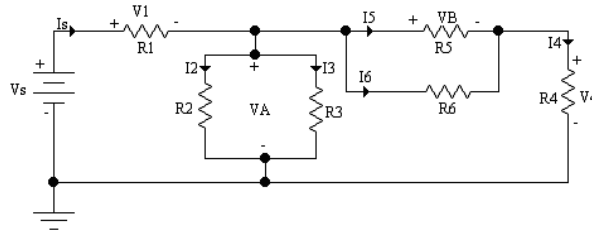

Figure 2.2
1. For the circuit of Figure 2.2 calculate  $R_T$ ,  $I_2$ ,  $I_3$ ,  $I_4$ ,  $I_5$ ,  $I_6$ ,  $I_S$ ,  $V_1$ ,  $V_A$ ,  $V_5$ , and  $V_4$ . With  $V_S = 15$  V,  $R_1 = 680$   $\Omega$ ,  $R_2 = 680$   $\Omega$ ,  $R_3 = 1$  k $\Omega$ ,  $R_4 = 2.2$  k $\Omega$ ,  $R_5 = 510$   $\Omega$ , and  $R_6 = 510$   $\Omega$ . Show all computer simulation.
1. Construct Figure 2.2, measure  $R_T$ ,  $I_2$ ,  $I_3$ ,  $I_4$ ,  $I_5$ ,  $I_6$ ,  $I_S$ ,  $V_1$ ,  $V_A$ ,  $V_5$ , and  $V_4$  using the DMM.